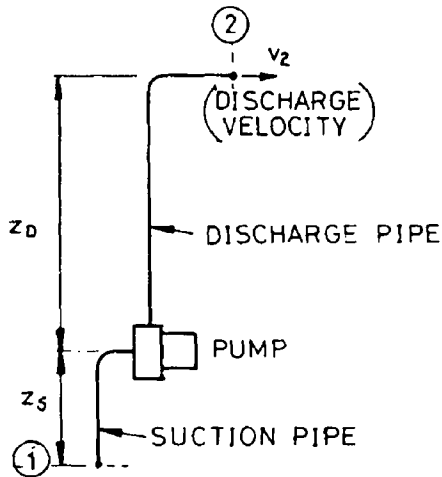

Fig. 225
Liquid enters the system at ①, the suction inlet, and is discharged at ②, the discharge pipe outlet. (see Fig. 225)